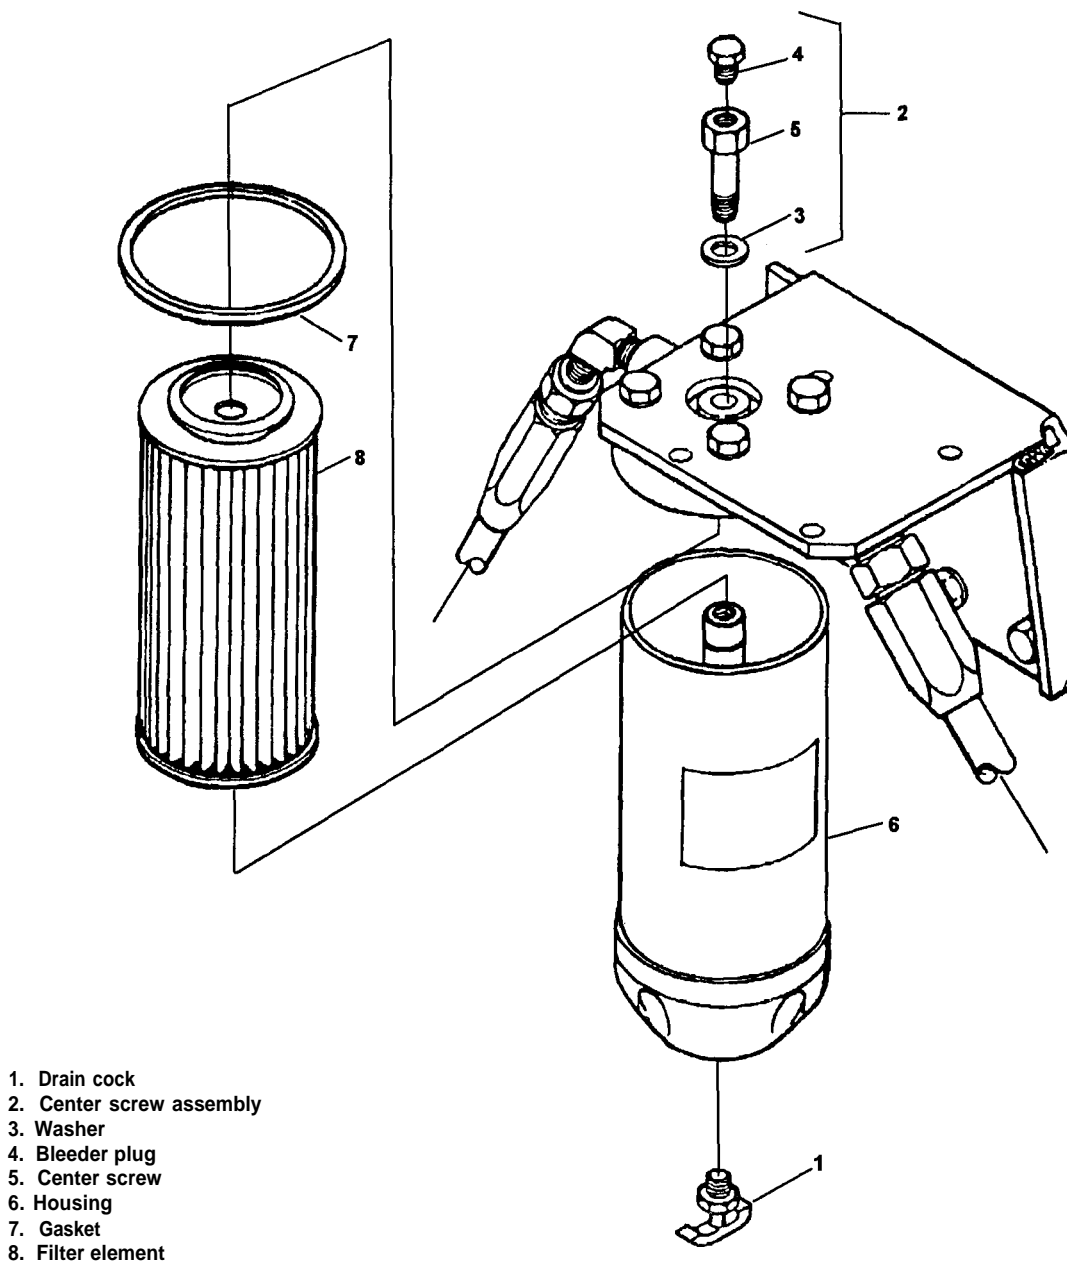

Figure 4-19. Secondary Fuel Filter, Disassembly and Reassembly
- (1) Open drain cock (1, Figure 4-19) and allow fuel to drain into a suitable container.
- (2) Remove center screw assembly (2) and washer (3) to remove housing (6) and gasket (7). Discard gasket.
- (3) Remove bleeder plug (4) from center screw (5).
- (4) Withdraw filter element (8) from housing and discard.
- (1) Insert replacement filter element (8) into housing (Figure 4-19).
- (2) Install replacement gasket (7) and secure housing (6) with washer (3) and center screw (2). Torque screw 17±2 lbs-ft.
- (3) Close drain cock (1) and fill day tank.
- (4) Install bleeder plug (4).